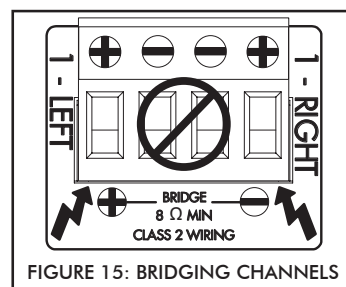

FIGURE 15: BRIDGING CHANNELS
2. Connect the speaker's "+" lead to the left side of the connector marked "+" (see Figure 15).
3. Connect the speaker's "-" lead to the right side of the connector marked "+" (see Figure 15).